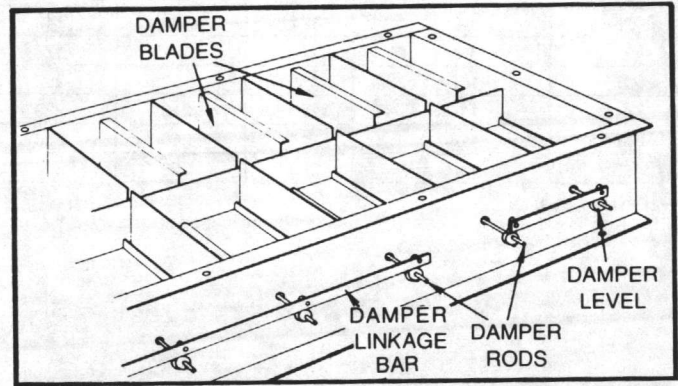

FIGURE 24A - Setting the Zone Damper Rods and Damper Linkage
Dampers on all units must be adjusted to ensure proper operation. Complete the instructions for each damper section. See Figure 24A.
3. Cut the damper linkage bar at the last lever. Figure 24A illustrates an example that uses two damper segments.